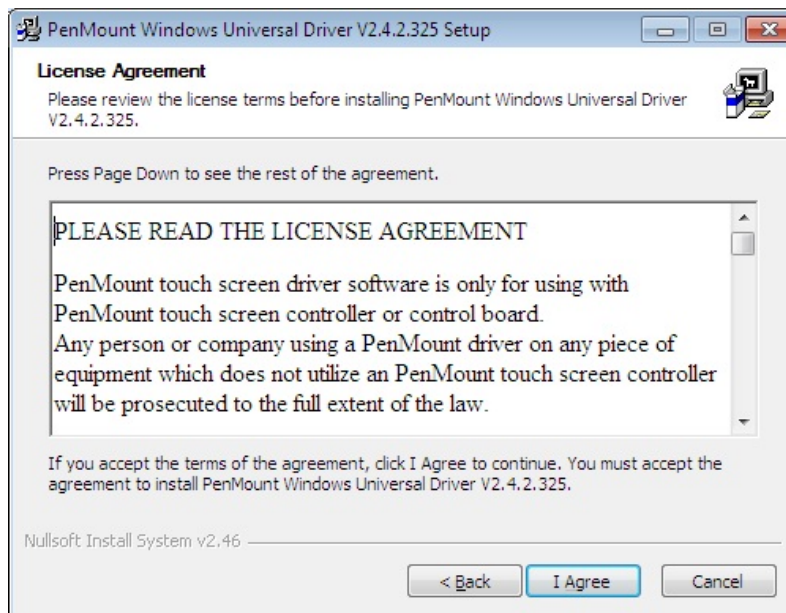

Figure 6-28: Touchscreen Driver License Agreement
Step 6: The license agreement in **Figure 6-28** appears.